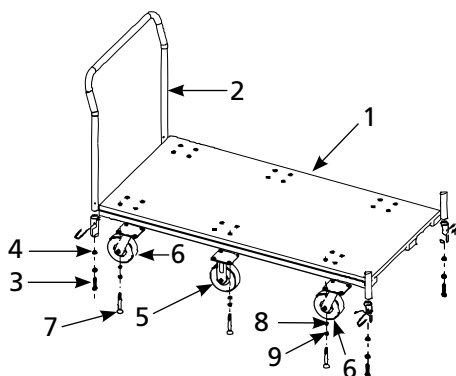

Figure 1 – Repair Parts Illustration for Industrial Platform Trucks
1. Secure casters to bottom of plastic platform deck using the bolts, washers, and lock washers included, using Figure 1 as a reference. Do not overtighten.